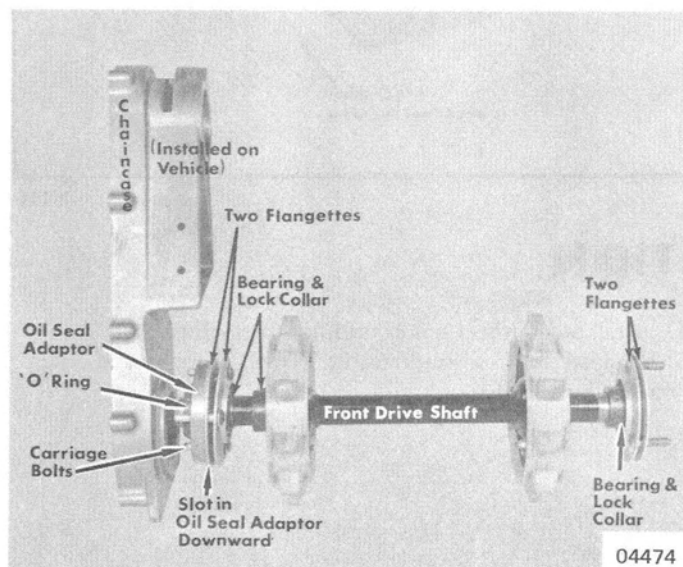

Figure 7. Front Axle Assembly
2. Slide locking collar, bearing and flangettes on right side of front axle from outside of chassis. (Figure 7)